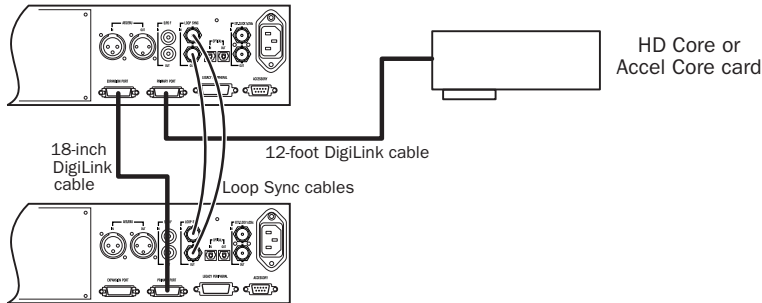

Figure 3. Two 96 I/Os, 32-channel
- 2 Connect a secondary Pro Tools|HD audio interface to the Expansion port on the primary audio interface using the 18-inch DigiLink cable (included with the audio interface). See Figure 3 on page 13.